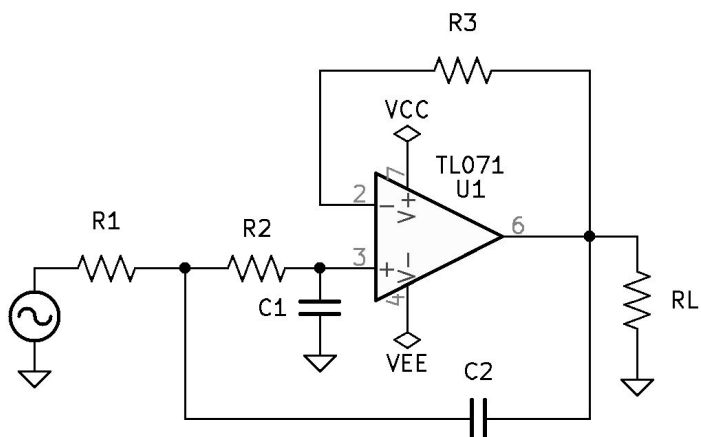

Figure 8.6: Low-Pass Second-Order Active Filtering Circuit.
1. See Figure 8.6 *Low-Pass Second-Order Active Filtering Circuit* on page 71.